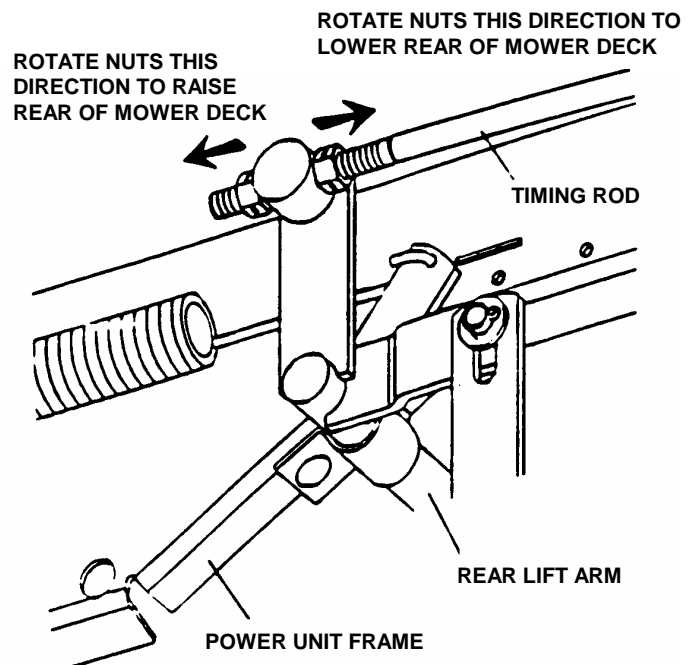

FIGURE 4.2A
13. **NOTE:** The timing rod connects the front and rear lift arms and maintains the deck in the same attitude through all heights of cut. Adjust the deck by loosening and rotating the timing rod adjusting nuts. Rotate both nuts forward to lower the rear of the deck or rearward to raise the rear of the deck. Tighten the nuts securely. See Figure 4.2A.